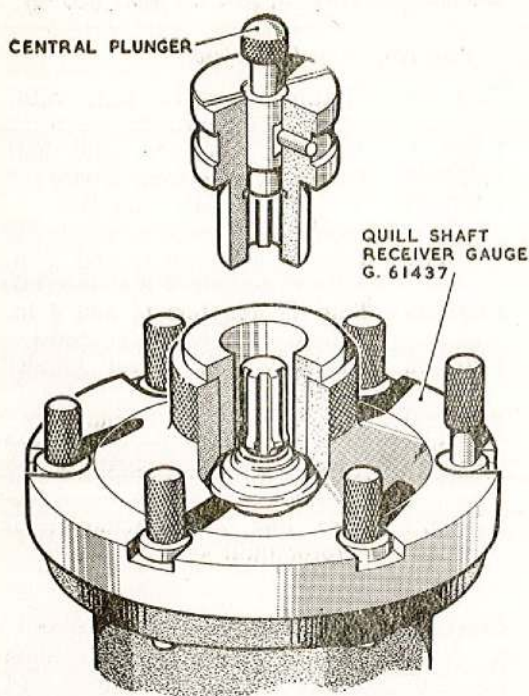

Fig. 2. Checking the quill shaft concentricity
9. Check the concentricity of the quill shaft by using the gauge G.61437 as shown in fig. 2; if the quill shaft will not accept the gauge the pump must not be run on the test rig. Remove the installation fittings from the pump and if the pump appears to be in running condition it should be mounted on the test rig as for final calibration.